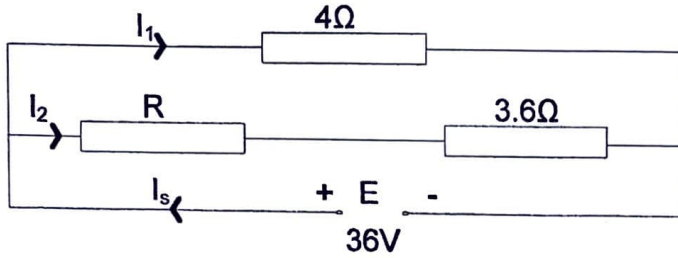

Fig Q7
- (a) the brake power; (4)
- (b) the indicated specific fuel consumption. (4)
6. (a) With the aid of a P-h diagram, describe the condition of the refrigerant fluid as it flows around the basic vapour compression plant. (4)
- (b) List the energy changes that occur across EACH item of plant in the basic refrigeration system of Q6(a). (4)
7. The circuit shown in Fig Q7 is connected across a 36 V supply. The power dissipated in the network is 540 W.